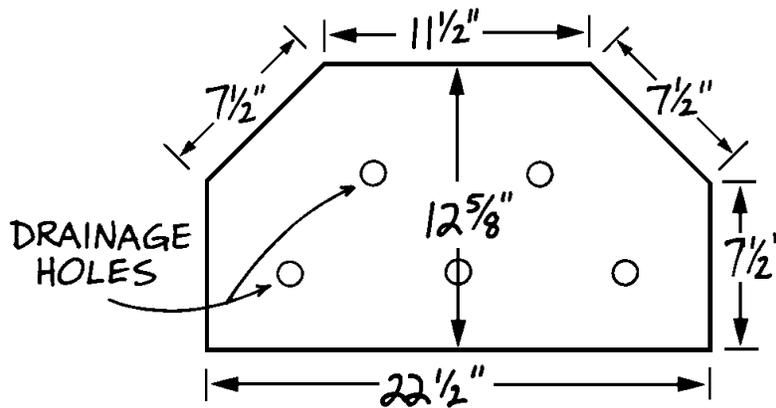

Figure 2
1. Using *Figure 2* as a guide cut four identical pieces from 3/4" thick exterior-grade plywood. Two pieces will be bases (E) and two will be bottoms (F) for the planters.
2. To allow for drainage, drill five 1"-diameter holes in each base (E) and bottom (F), as shown in *Figure 2*. The exact placement of these holes is not important.